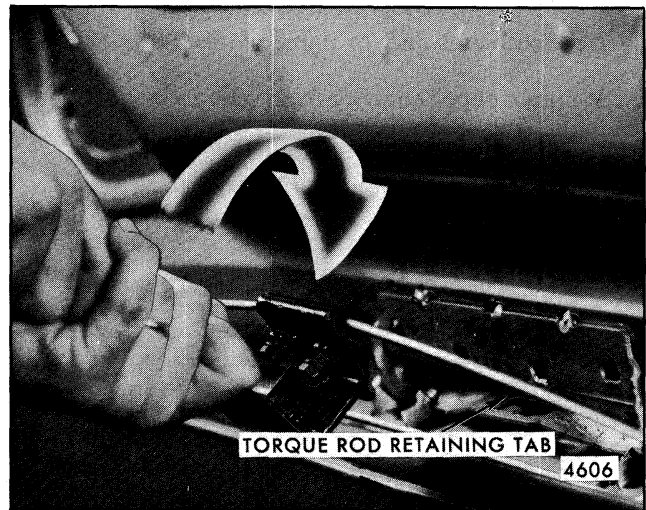

Fig. 7-4-Rear Compartment Lid Removal - "11" Styles
4. Firmly grasp tool J-24854 or equivalent with both hands and disengage torque rod loop from retaining tab on body side hinge half as shown in Figure 7-4. Carefully allow torque rod to "unwind" (180 degrees) as shown in Figures 7-4 and 7-5.